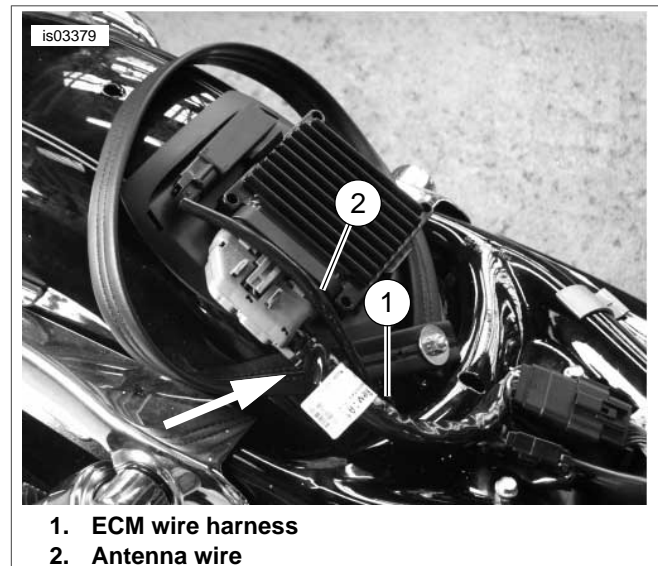

Figure 5. Grabstrap Routing Under Wires (2007-2009)
2. See Figure 5. *2007-2009 models:* Route grabstrap under ECM wire harness (1) and antenna wire (2).